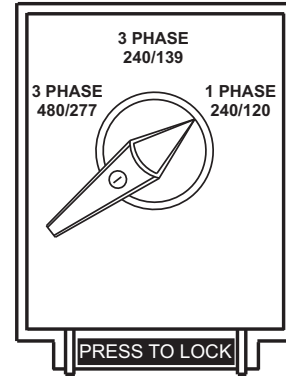

Figure 32. Voltage Selector Switch 1Ø-240/120V Position
1. Place the voltage selector switch in the 1Ø 240/120V position as shown in Figure 32.